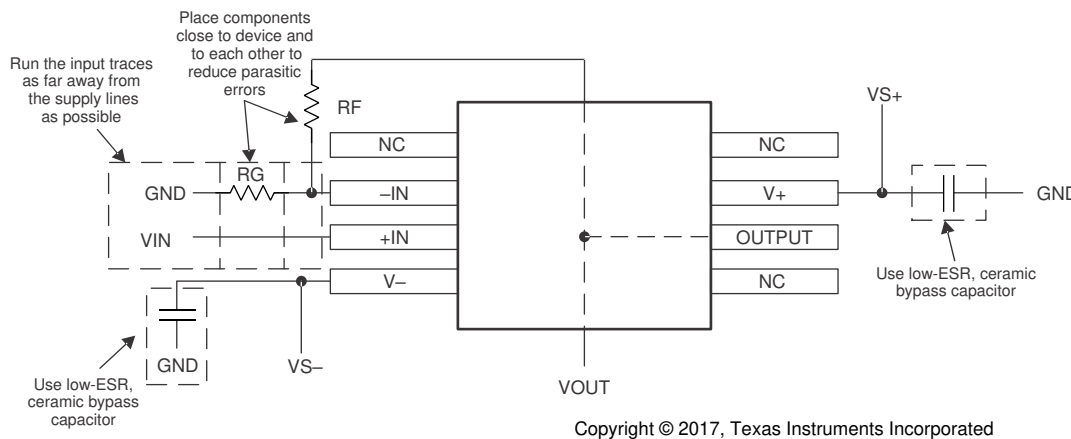

Figure 33. Layout Recommendation
- Place the external components as close to the device as possible. As shown in Figure 33, keeping RF and RG close to the inverting input minimizes parasitic capacitance.